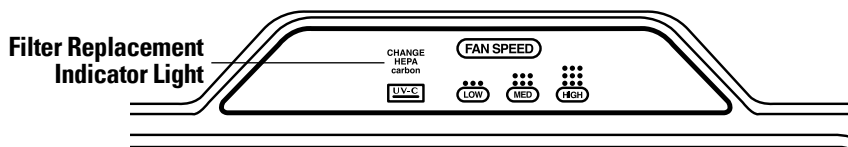

Figure 3
1. Filter Replacement Indicator light on the control panel will illuminate indicating that it is time to replace your filter (Figure 3).